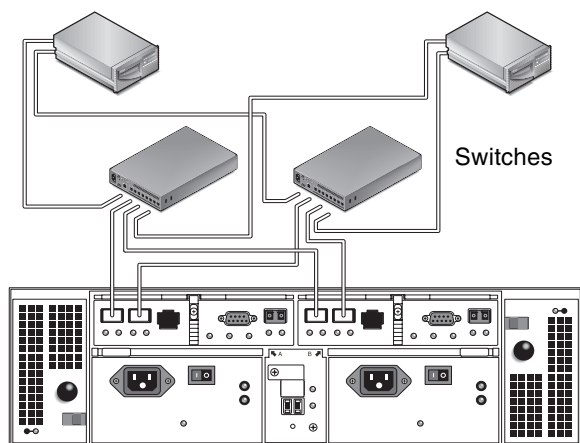

FIGURE 4-4 Connecting Data Hosts via a Switch with Cross-Connections
3. Connect the other end of each cable to the external switch as shown in the graphics that follow. **FIGURE 4-4** shows the external switch with cross-connections. Note that this configuration is not yet supported for use within a SunCluster.